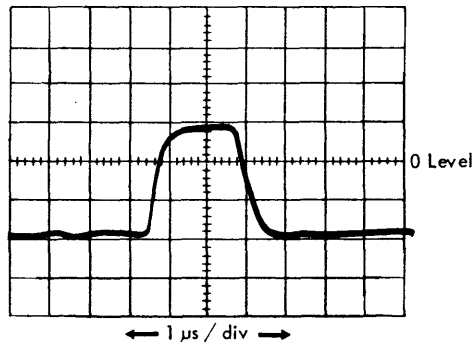

Figure 9. Disk Clock  $\phi B$  (3Zc)  $2.25 \pm .25 \mu s$
4. Adjust 2W6 (3.01.02) for a disk  $\phi B$  pulse length of  $2.25 \pm .25 \mu s$  at the zero volt level (See Figure 9). Use process unit clock,  $\phi A$  adjustment procedure, step 7.